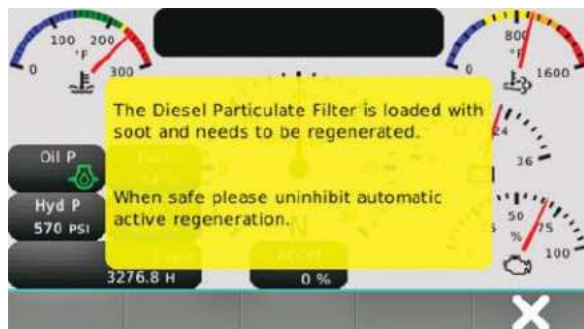

Figure 4-27. Parked Regeneration Green Popup Message Screen
4. Parked Regeneration is complete when the controller screen shows the following green popup message. (Figure 4-27) Click on the **X** soft key to remove the popup message. Once the Parked Regeneration process is complete the engine will automatically return to normal idle speed. The machine can return to normal usage.